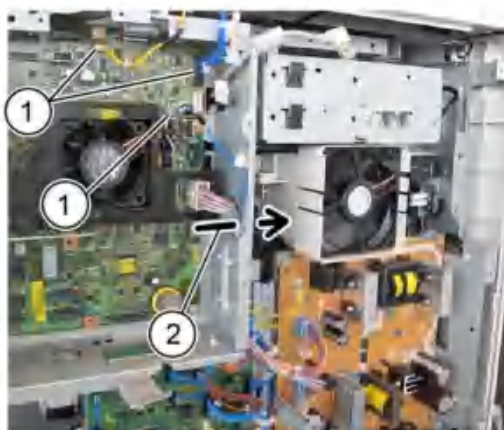

Figure 8 Connectors
9. Disconnect the connectors, **Figure 8**:
- Disconnect the three connectors (1), then release the associated harness clamps.
- Pull the harness through the hole in the chassis (2).